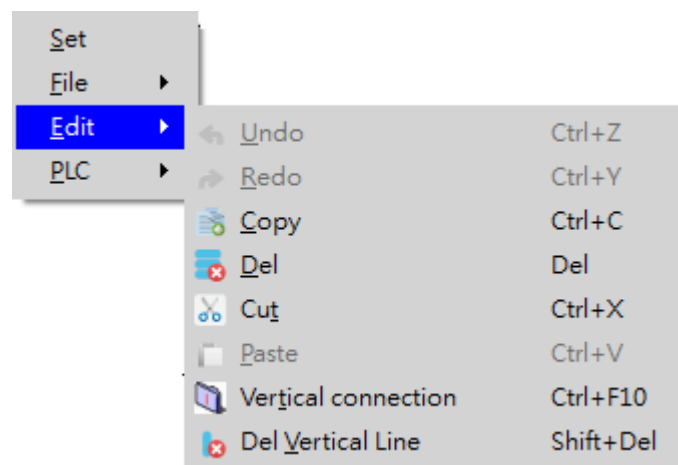

Fig. 75 Edit Sub Menu
- Edit sub menu is as Fig. 75.